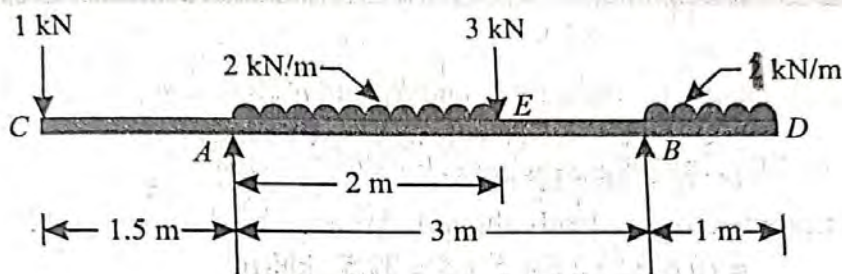

Fig. 9.12.
**Example 9.5.** A beam AB of span 3m, overhanging on both sides is loaded as shown in Fig. 9.12.